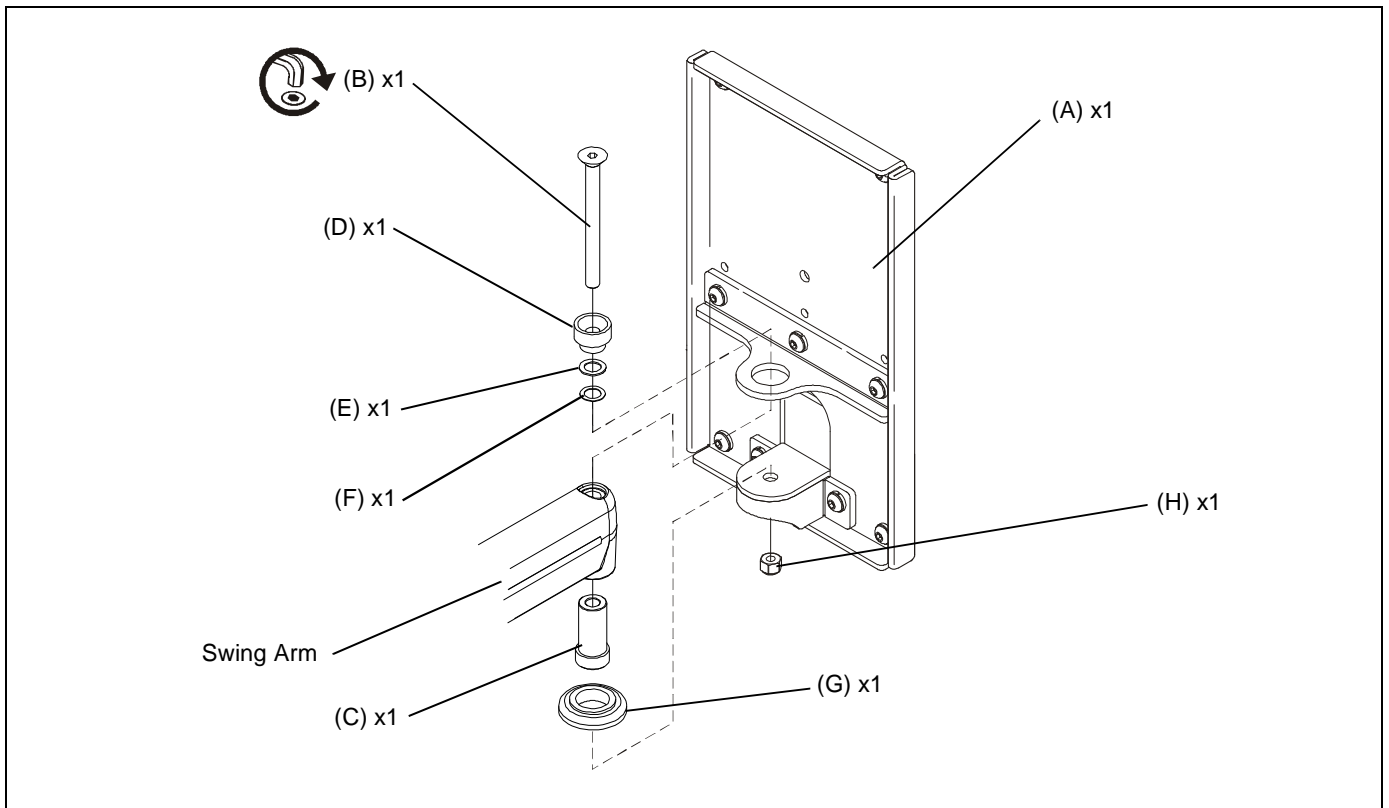

Figure 3
1. Orient swing arm so that it is positioned in front of mounting tabs on wall plate (A). (See Figure 3)
2. Slide inner stud (C) up into bottom of swing arm.
3. Place spacer (G) up against bottom of swing arm and hold spacer (G) and inner stud (C) in place. (See Figure 3)
4. Slide swingarm with inner stud (C) and spacer (G) between mounting tabs in wall plate (A). (See Figure 3)
5. Slide stepped spacer(D), spacer (E) and washer (F) onto flat head cap screw (B). (See Figure 3)
6. Slide flat head cap screw (B) with spacers (E) and washer (F) down into swing arm and through inner stud (C) and lower spacer (G). (See Figure 3)
7. Secure swing arm to mount using Nylock nut (H). (See Figure 3)